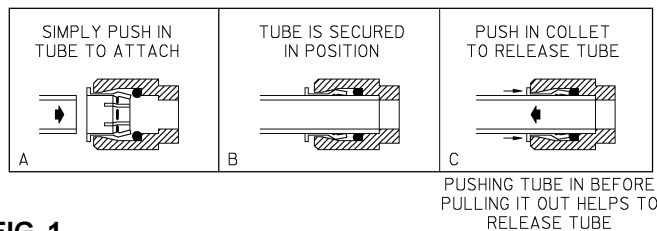

FIG. 1
9. Connect fountain to supply line with a shut-off valve and install a 3/8" unplated copper water line between the valve and the cooler. Remove any burrs from outside of water line. Push the tubes straight into the fittings until they reach a positive stop, approximately 3/4" (See Figs. 1 and 2). DO NOT SOLDER TUBE INSERTED INTO THE STRAINER AS DAMAGE TO THE O-RINGS MAY RESULT.
Actuation of Quick Connect Water Fittings: Fountain is provided with lead-free connectors which utilize an o-ring water seal. To remove tubing from the fitting, relieve water pressure, push in on the gray collar while pulling on the tubing. (See Fig. 1) To insert tubing, push tube straight into fitting until it reaches a positive stop, approximately 3/4".